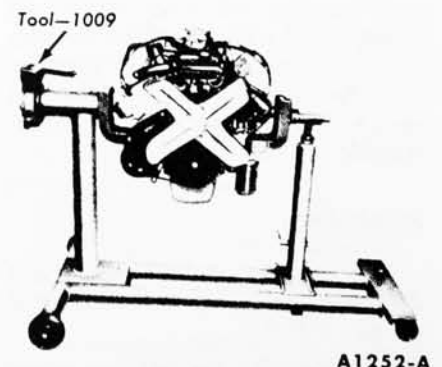

FIG. 25—Engine Work Stand
22. Lift the engine out of the engine compartment and install it on a work stand (Fig. 25).